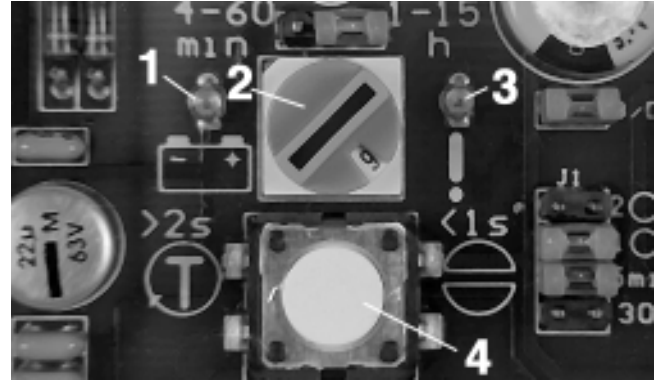

Fig. 14 - LED of the printed circuit board
Note: It is also possible to acknowledge any fault or to trigger an additional lubrication cycle via pushbutton 4 of the printed circuit board (Fig. 14).
- The signal lamp or the LED fig. 14 indicates the operating state of the centralized lubrication system.
- The faults are indicated by different flashing frequencies of the signal lamp or the LED fig. 14. See "Fault Indication".